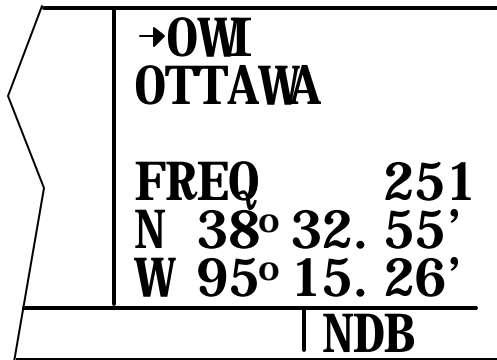

Figure 3D-26. NDB Page
- a. **NDB Page Display.** Refer to Figure 3D-26.